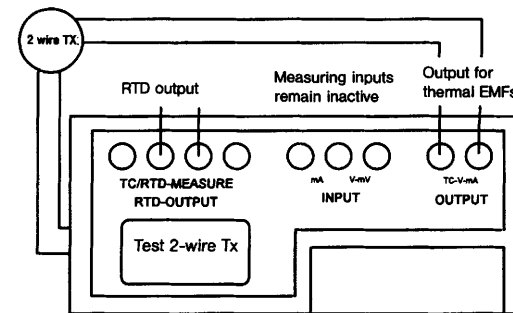

Figure 9.4.0 Connecting a 2-wire transmitter
- <1> allows you to check 2-wire temperature transmitters. These transmitters are connected as shown in Figure 9.4.0.